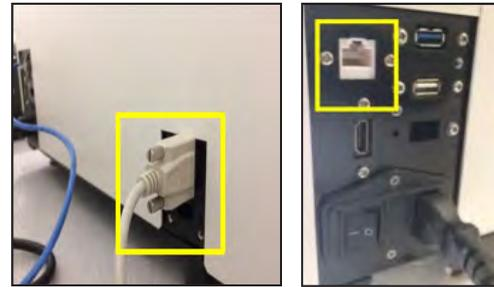

Figure 4.1 FLEX2 COM Port (left) and NIC (right)
3. Verify that the ESM COM cable is properly connected and secured to the COM port on the rear of the FLEX2 and that on the rear of the ESM (Fig.4.1 and 4.2, respectively).
4. Ensure that the Ethernet cable is securely plugged into a port on the ambr® computer and the network port on the rear of the FLEX2 (Fig. 4.1). See Section 3.3 for additional connectivity options.